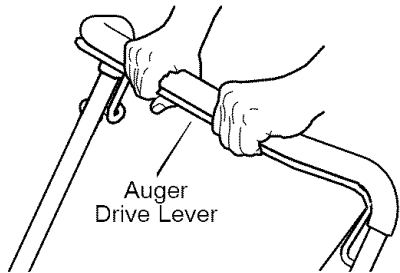

Figure 6
1. Hold the **auger drive lever** against the **handle** (See Figure 6). The auger will begin rotating.